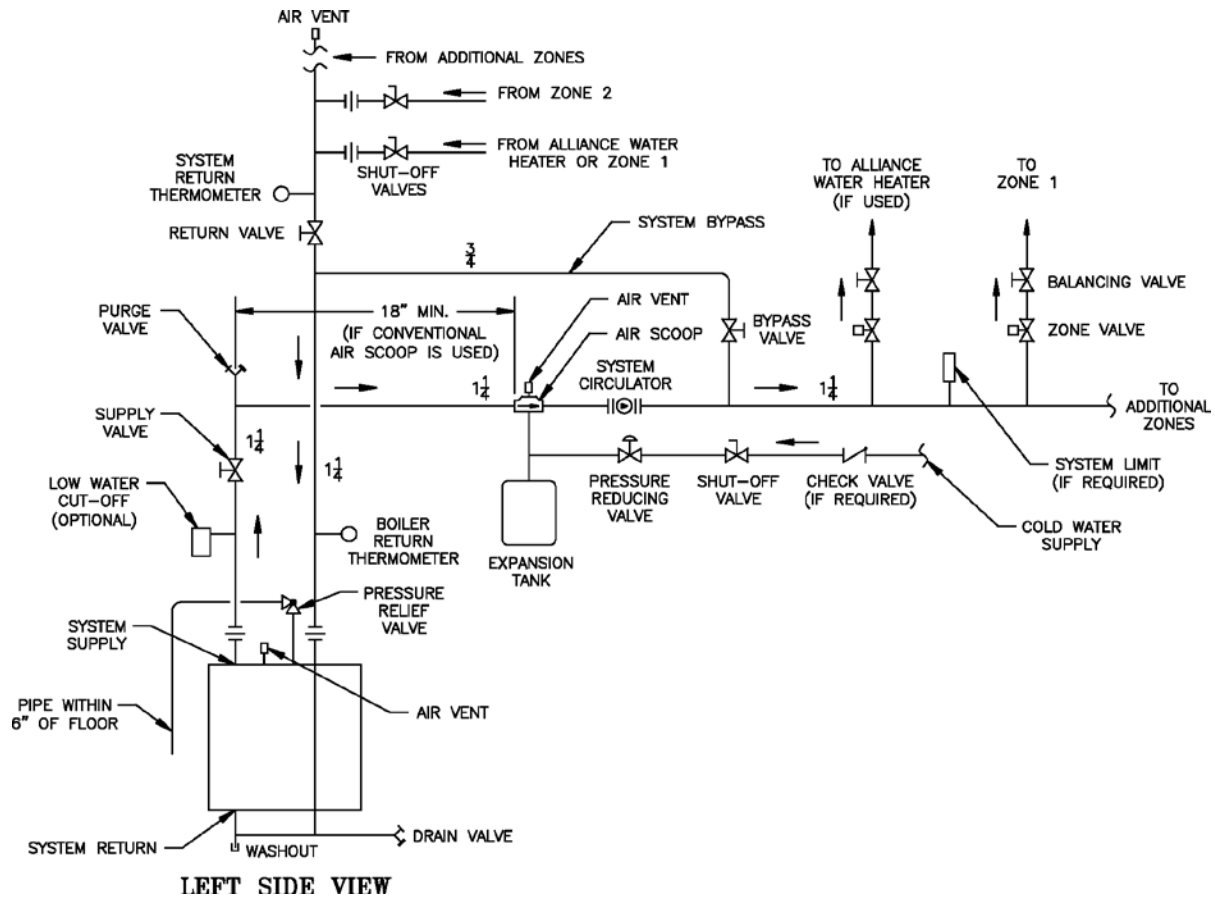

Figure 4: Recommended Boiler Piping for Zoning with Valves
- A. Tilt boiler, "walk" boiler backward, and set rear legs down on floor. Tilt boiler backward, pull skid forward and set front legs down on edge of skid. Install close coupling, tee, and plug in return coupling, see Step 7 and Figure 4. Point tee toward permanent return location.
Valves should be located in the by-pass and return line as illustrated in Figures 4 and 5 in order to regulate water flow for maintenance of higher boiler water temperature.